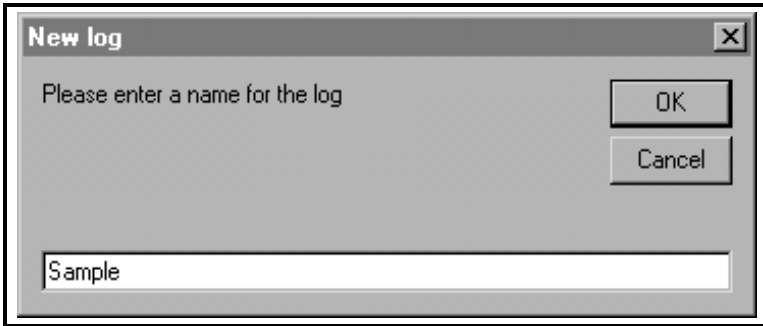

Figure 6-24: Log Name Dialog Box
5. Enter a log file name (“Sample” in this case) in the dialog box shown in Figure 6-24 below. Click on the [OK] option button.